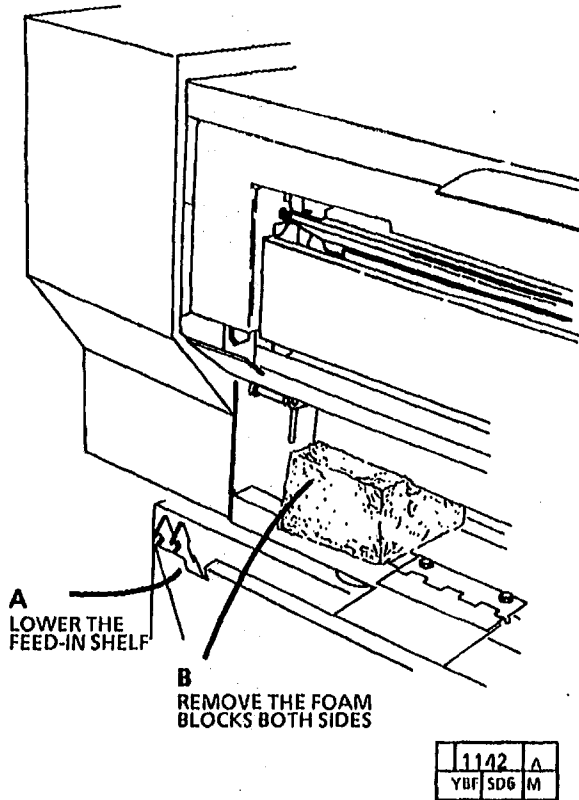

Figure 3. Removing the Foam Blocks
3. (Figure 3): Remove the foam block.